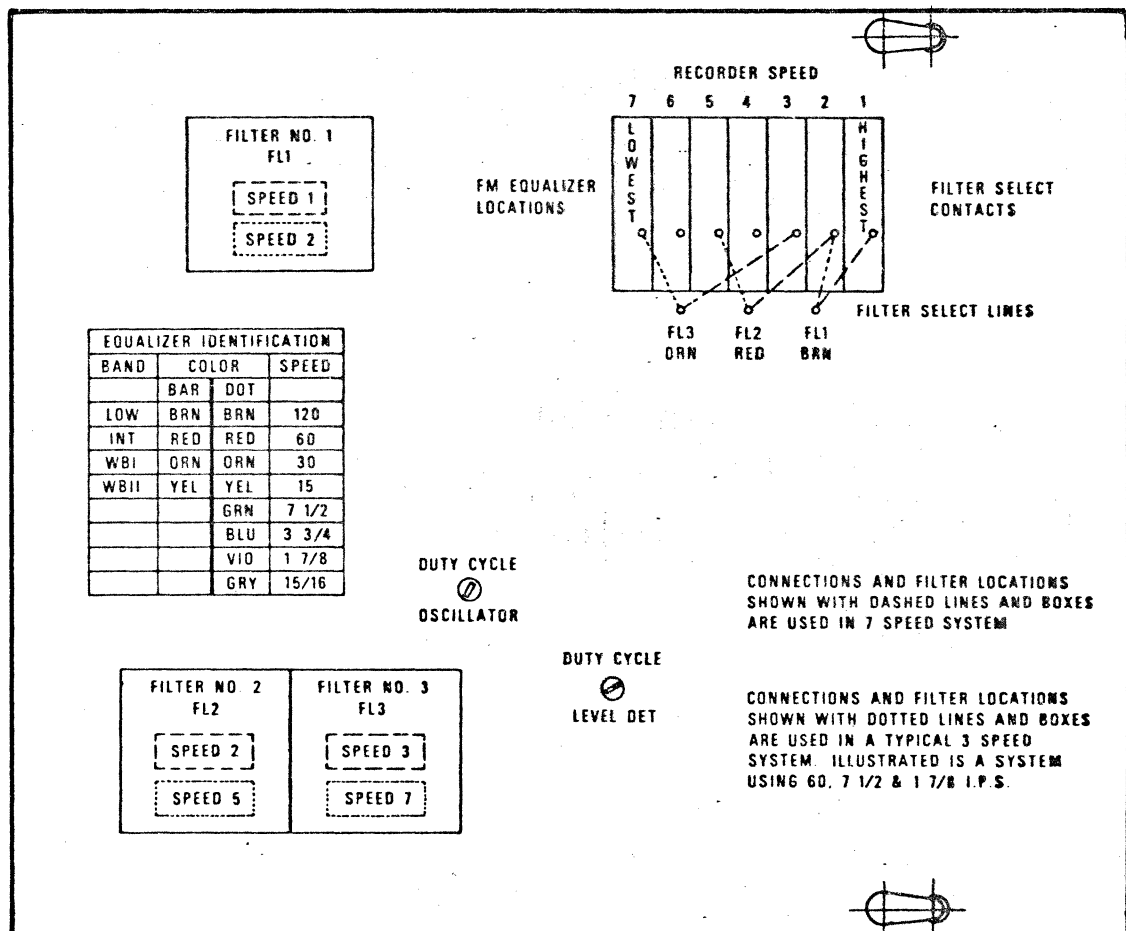

Figure 2. Variation Locations and Matrix Lines
Bandwidth selection components consist of equalizers, filters, and four circuit components (three capacitors and 1 inductor). Refer to table 3 and figures 2, 4, 5, and 6.
b. **OPERATING SPEEDS** - A speed line matrix and the three speed dependent filter networks govern which three reproduce speeds are accommodated on the FM reproduce board. The optional FM 4-7 Speed Expander board (bulletin 3648-1) is required when all seven reproduce speeds are desired. Refer to figures 2, 5 and 6.
a. **BANDWIDTH AND SPEED VARIATIONS** – Figure 2 details the various filter select lines, equalizer locations and identifications, and filter locations and identifications.
- (a) Ensure the speed dependent matrix jumpers are positioned properly for those three speeds desired. Refer to figure 2.
- (b) Ensure the FM reproduce boards contain the desired speed and bandwidth dependent equalizers, filters, and timing components. Refer to figures 2, 5, and 6.